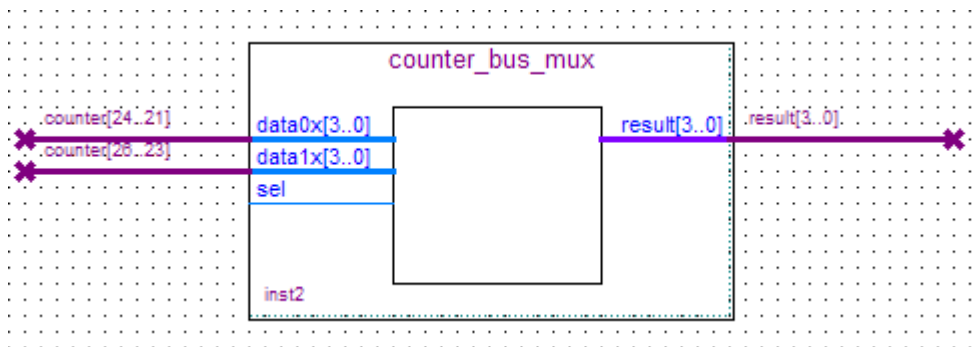

Figure 6-37 Renamed counter_bus_mux Bus Lines
- h. Click **OK**. **Figure 6-37** shows the renamed buses.